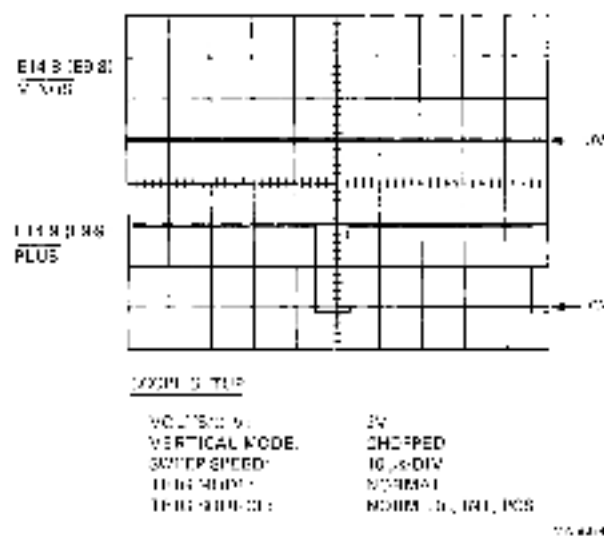

Figure 6-8 DC Servo Motor Being Driven Right-to-Left during Carriage Return
17. Change the scope settings to, Sweep 10 μ s/DIV and NORMAL trigger source. The waveform on the scope during a right-to-left carriage return should match the waveform in Figure 6-8.